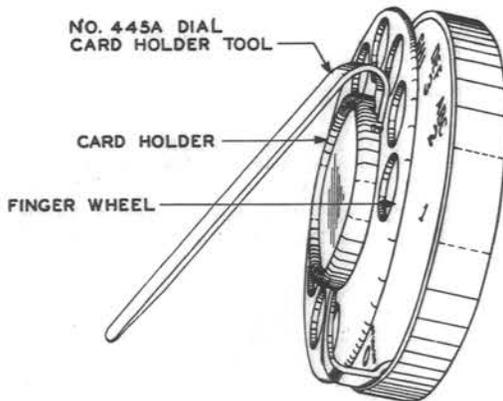

Fig. 12 - Method of Removing Dial Card Holder
3.04 Remove the card holder frame by inserting the point of the No. 445A dial card holder tool into either of the two slots at the top or rear of the card holder frame and forcing the other end of the tool away from the finger wheel as shown in Fig. 12. Remove the card retainer spring or card support by inserting the edge of the KS-6854 screwdriver under the part and forcing it out of the card holder. Where the dial is equipped with an earlier type card retainer and card retainer spring, discard these parts and substitute the later card support. Substitute other new parts as required and reassemble in the reverse order of removal. Remount the card holder on the dial.